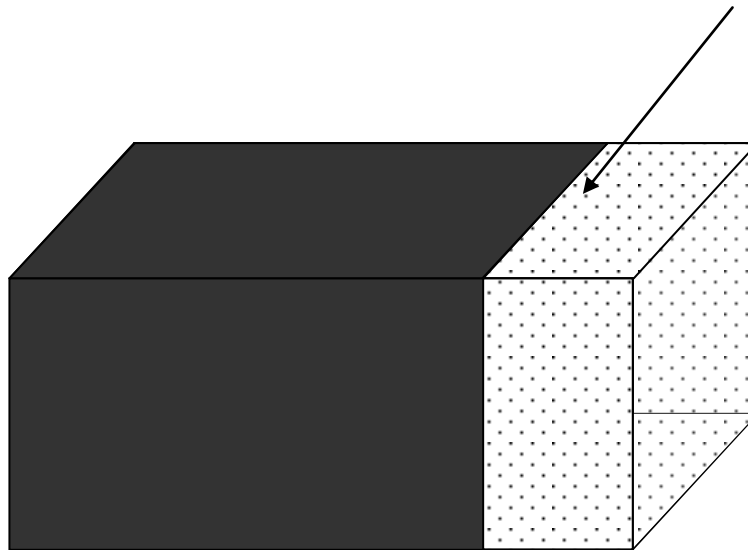

Figure 1
- 6.1 Cut a complete vertical section from the block of adhesive in order to obtain a uniform representative sample (see figure 1) and to supply enough product to pour all specimens for testing.